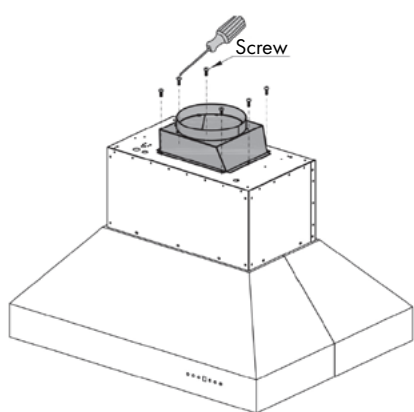

Figure 2
2. Attach the transition piece and ducting to top of the hood. *Figure 2*